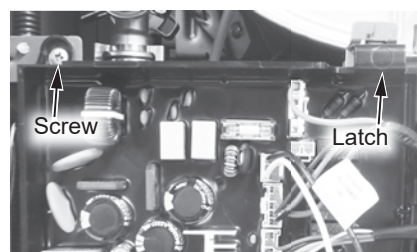

Figure 40 - Control board location
**5** Locate the screw securing the control board panel as shown in Figure 40. Use a Phillips screwdriver to remove the screw and place it aside in a safe place for reinstallation.